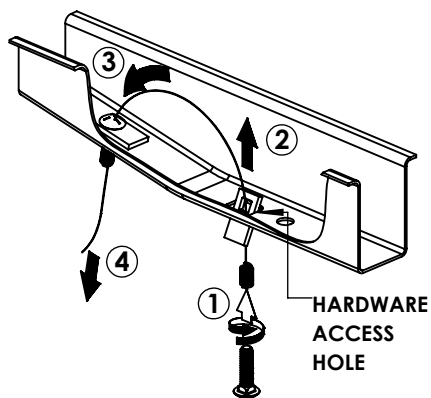

FIG. 2
7. Trim heat shield(s) to create a 1-1/2" diameter clearance hole for the forward hitch fastener(s) and reinstall with the original vehicle hardware removed in step 2. The clearance hole should be approximately 2-3/4" aft of the forward-most heat shield fastener. See **FIG. 2** for trimming illustration.